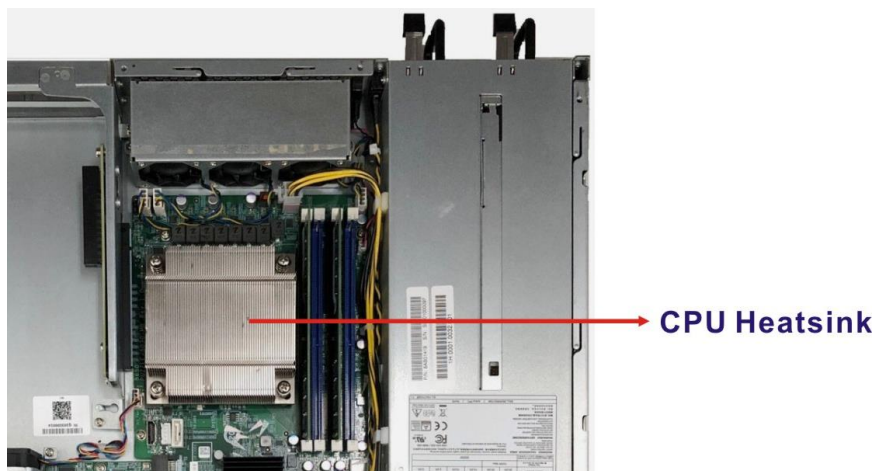

Figure 3-7: CPU Heatsink Installation
- Step 2:** **Properly orient the CPU heatsink.** The CPU heatsink must be oriented as shown in **Figure 3-7** so that thermal convection currents can carry the heat away from the heatsink.